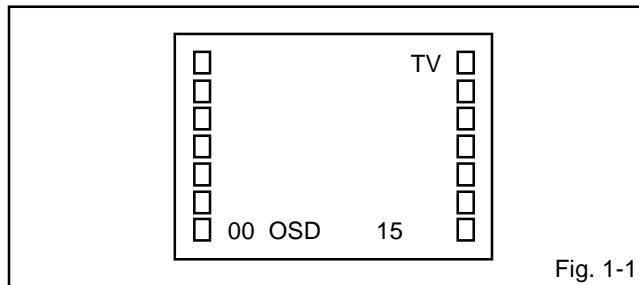

Fig. 1-1
2. Press the VOL. DOWN button on the set and the Channel button (9) on the remote control simultaneously to appear the adjustment mode on the screen as shown in **Fig. 1-1**.
4. Activate the adjustment mode display of **Fig. 1-1** and press the channel button (03) on the remote control to select "VIF VCO".
3. Activate the adjustment mode display of **Fig. 1-1** and press the channel button **(02)** on the remote control to select "RF DELAY".
5. Activate the adjustment mode display of **Fig. 1-1** and press the channel button **(01)** on the remote control to select "CUT OFF".
4. Activate the adjustment mode display of **Fig. 1-1** and press the channel button **(10)** on the remote control to select "R CUT OFF".
3. Activate the adjustment mode display of **Fig. 1-1** and press the channel button **(05)** on the remote control to select "H PHASE".
3. Activate the adjustment mode display of **Fig. 1-1** and press the channel button **(07)** on the remote control to select "V SHIFT".
3. Activate the adjustment mode display of **Fig. 1-1** and press the channel button **(06)** on the remote control to select "V SIZE".
3. Activate the adjustment mode display of **Fig. 1-1** and press the channel button **(13)** on the remote control to select "BRIGHTNESS".
1. Activate the adjustment mode display of **Fig. 1-1** and press the channel button **(14)** on the remote control to select "CONTRAST".